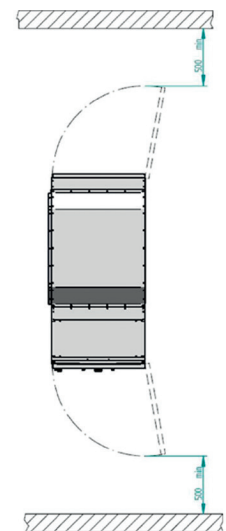

Figure 40
**Fixing on channels embedded in concrete** (See Figures 40, 41, and 43)